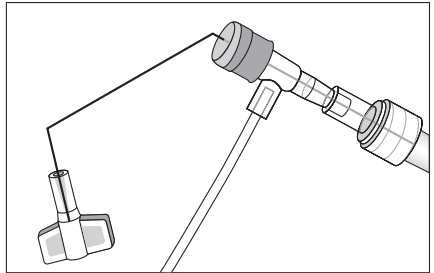

Figure 3
- Kink proximal end of placement wire at side-port connector to minimize risk of placement wire exiting distal tip of catheter during insertion (refer to Figure 3).